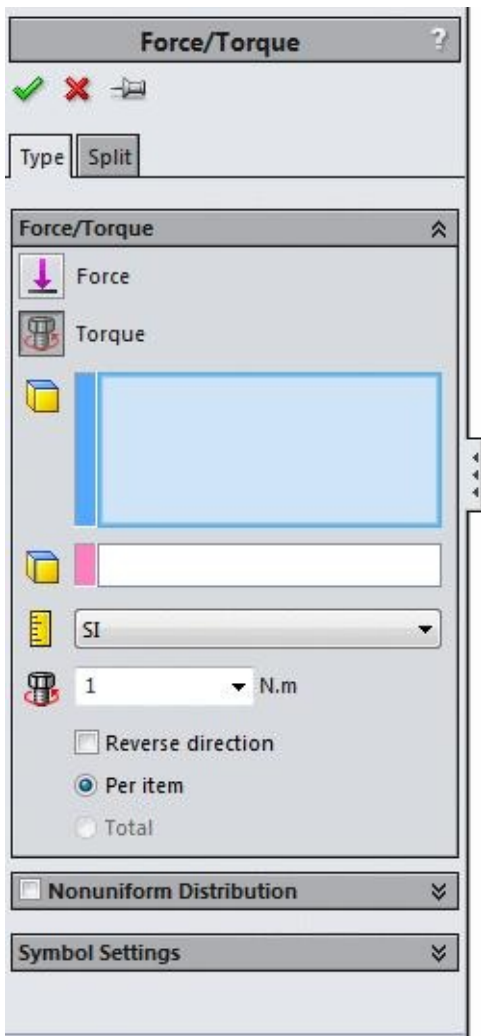

Figure-39. Force Torque PropertyManager with torque options
- Click on the **Torque** button from the **External Loads Advisor** drop-down. The **Force/Torque PropertyManager** will be displayed with the **Torque** button selected by default. Refer to Figure-39.